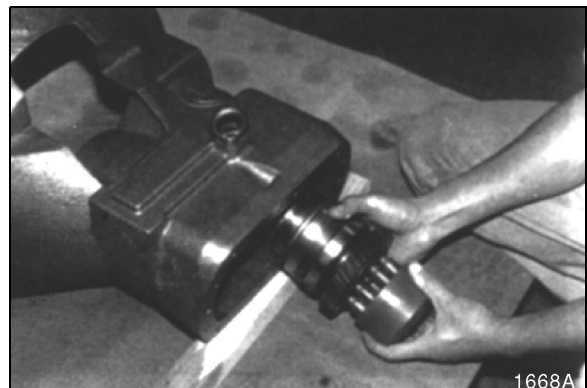

Figure 75
12. Remove rotary group from rear side of housing. See Figure 75.